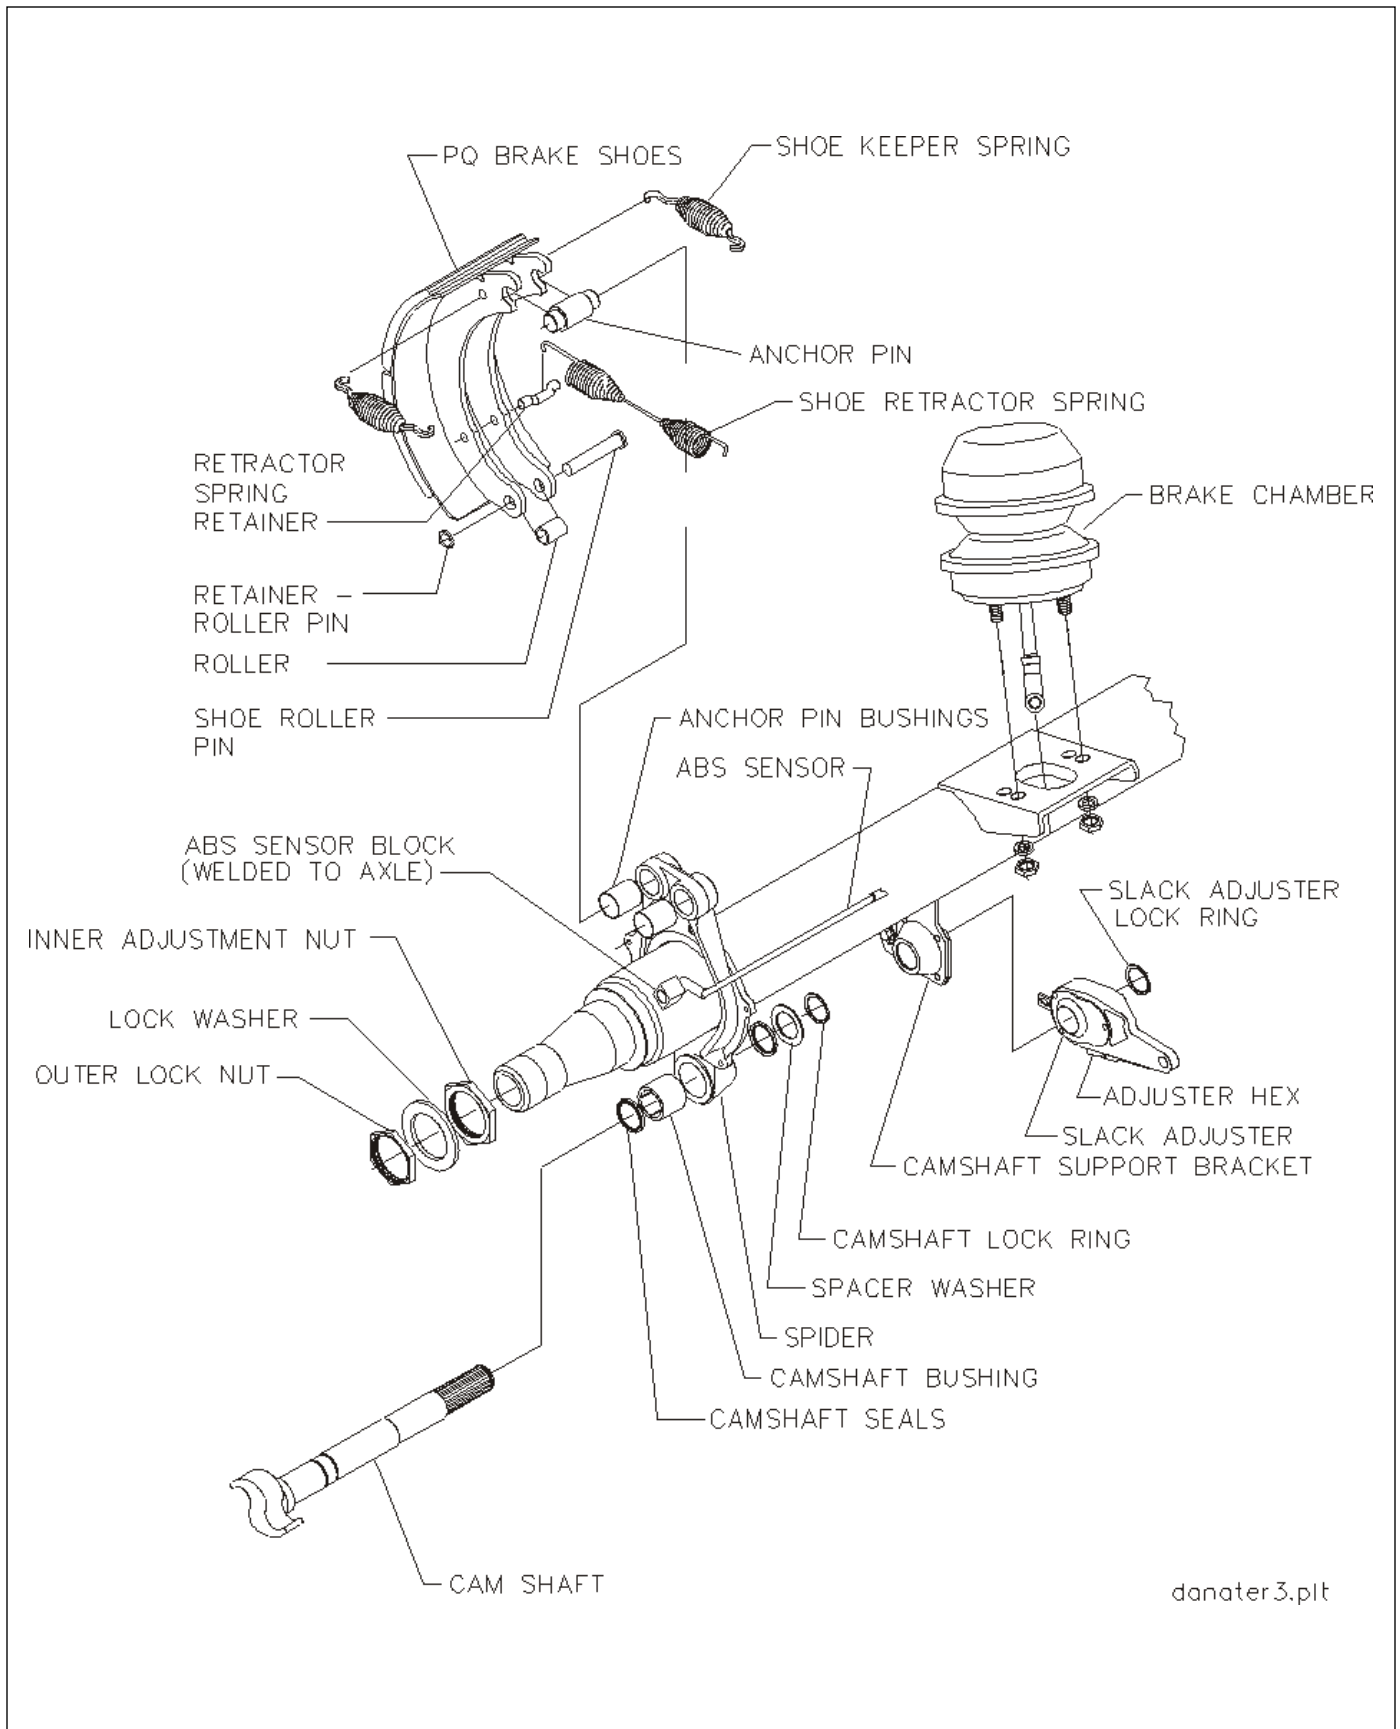

Figure 4-13: Axle and Brake Assembly
2. Remove slack adjuster lock ring and slack adjuster (See **Figure 4-13**)
1. Release brakes and back off slack adjuster (See Figure 4-13)